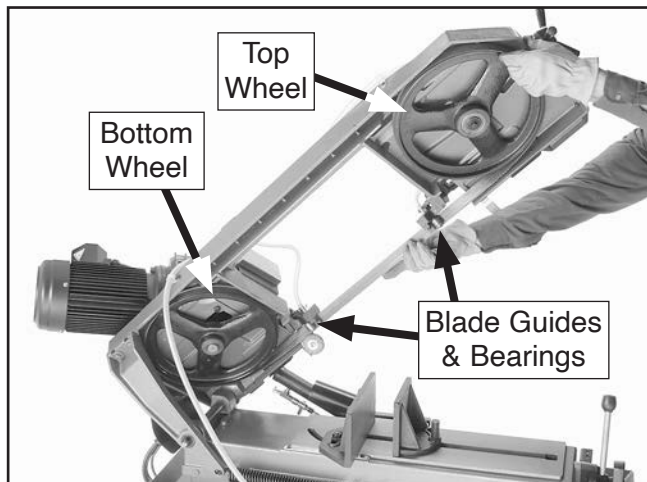

Figure 42. Example of inserting blade through blade guides and around wheels.
9. Insert new blade through both blade guides and bearings (see **Figure 42**), then position it around bottom wheel.
10. Keep blade around bottom wheel and between blade guides with one hand, then slip blade around top wheel with other hand (see **Figure 42**).